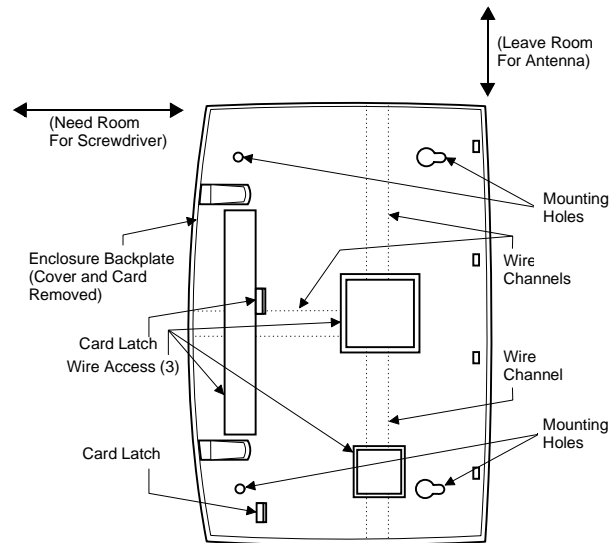

Figure 5. Plastic Case Mounting Holes
3. Place the module back plate on the wall and mark the mounting hole locations (Figure 5).